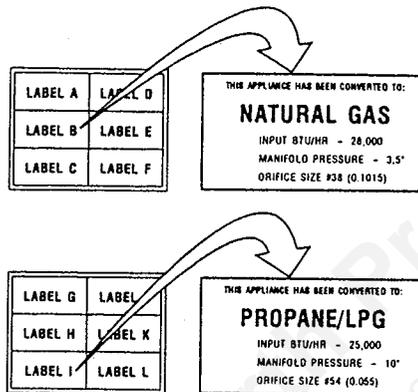

Figure 37
Step 8. Attach conversion kit label to the rating plate on the appliance; Label B for units converted to natural gas or Label I for units converted to propane (Figure 37).